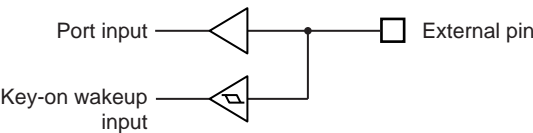

Figure 14-2 Key-on Wakeup Input and Port Input
- Note 3: The input circuit of Key-on Wakeup input and Port input is separated, so each input voltage threshold value is different. Therefore, a value comes from port input before STOP mode start may be different from a value which is detected by Key-on Wakeup input (Figure 14-2).